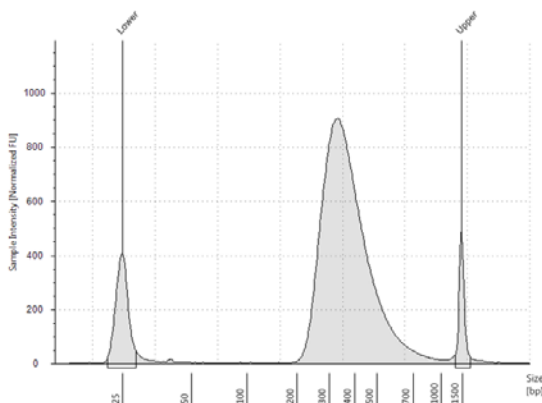
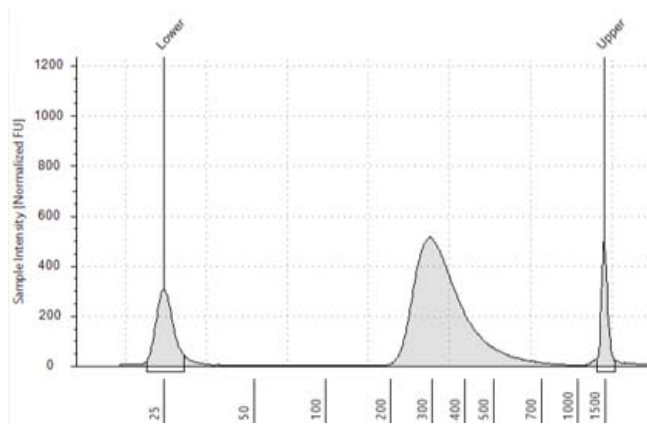
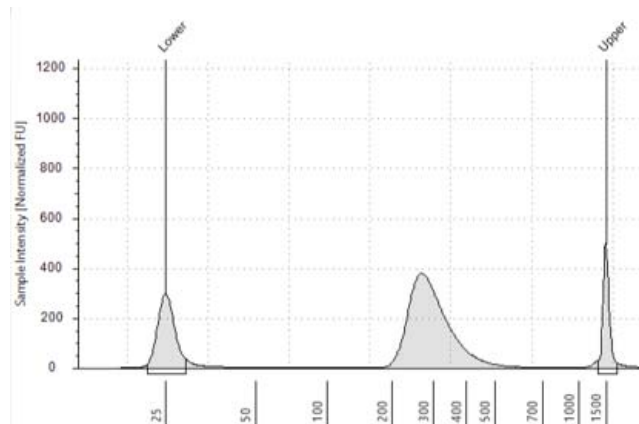

Figure 5 Post-capture library prepared from a high-quality gDNA sample analyzed using a High Sensitivity D1000 ScreenTape assay.
Figure 6 Post-capture library prepared from a typical FFPE gDNA sample analyzed using a High Sensitivity D1000 ScreenTape assay.
Figure 7 Post-capture library prepared from a low-quality FFPE gDNA sample analyzed using a High Sensitivity D1000 ScreenTape assay.
| 2 ×100 reads | Intact DNA | 200 to 400 bp (see Figure 5 for sample electropherogram) |
| | FFPE DNA | 200 to 400 bp (see Figure 6 and Figure 7 for sample electropherograms) |
- 3 Verify that the electropherogram shows the expected DNA fragment size peak position (see Table 39 for guidelines). Sample TapeStation system electropherograms are shown for libraries prepared from sheared DNA designed for 2 ×100 bp reads in Figure 5 (high-quality input DNA), Figure 6 (medium-quality FFPE input DNA), and Figure 7 (low-quality FFPE input DNA).